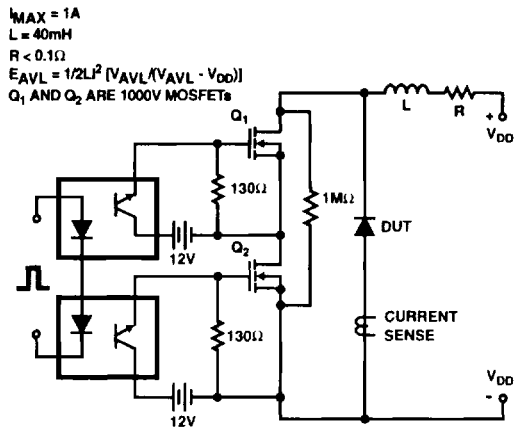

FIGURE 10. AVALANCHE ENERGY TEST CIRCUIT
- E_{AVL} = Controlled avalanche energy. (See Figures 10 and 11).